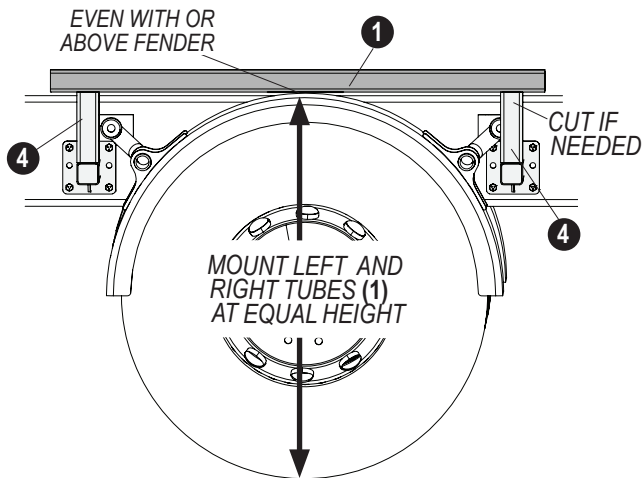

FIG. 175
- Ensure the left and right **bridge mount tubes (1)** are not lower than the fenders.
- Ensure both **bridge mount tubes (1)** are mounted at the same height and remain parallel and square.
- If needed, cut the upright **offset tubes (4)** to just above the lip of the fender, see Figure 175.